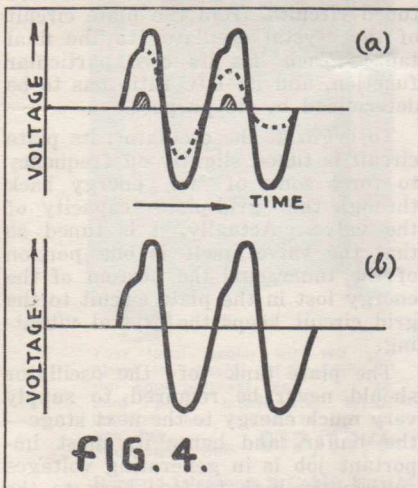

FIG. 4.
How the transmission is affected by the "Q" factor is shown in figure 4, (A) and (B) showing the graphs of the voltages across high and low Q circuits flicked by plate current. All kinks in the wave-form result in harmonics, and as the purpose of the transmitter is to transmit on one carrier frequency only, the smoothest looking wave is the most desirable one. It is best, then, to store a relatively enormous amount of energy in the tuned circuit nearest the aerial (i.e., the "final tank") to be able to lose a great amount to the aerial without reducing the "Q" factor, and increasing the harmonic radiation too much.